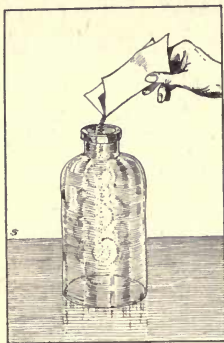

FIG. 56. When powdered iron is thrown into a jar of chlorin, a shower of sparks is produced.
**Exercise 2.** Throw a small quantity of powdered antimony, or iron powder, into a jar of chlorin. A shower of brilliant sparks is produced as the two elements combine (Fig. 56).